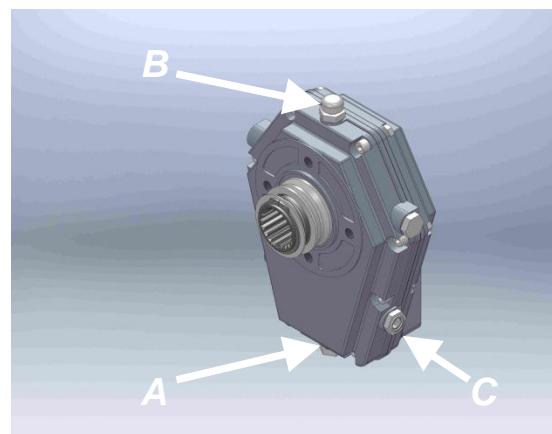

Figure 23B
- ☞ The PTO Gearbox [Figure 23B] (PTO pump drive option) uses gear oil API GL5 (SAE 80W90) or synthetic oil (SAE 75W90). Capacity: 0.350 liter
Change the oil in the PTO gearbox [Figure 23B] at the beginning of each planting season or application. The temperature changes during the offseason and can cause condensation insides of the transmission, thus reducing the efficiency of the lubrication.
To drain the oil, remove the drain plug [Figure 23B, **A**] at the bottom of the gearbox casing. To facilitate the flow, remove the filler cap [Figure 23B, **B**]. Reinstall the drain plug and fill the gearbox with gear oil API GL5 (SAE 80W90) or synthetic oil (SAE 75W90) to the recommended level, approximately 0.35 liters. A window indicates the oil level [Figure 23B, **C**]. Check the oil level every day, fill as needed.